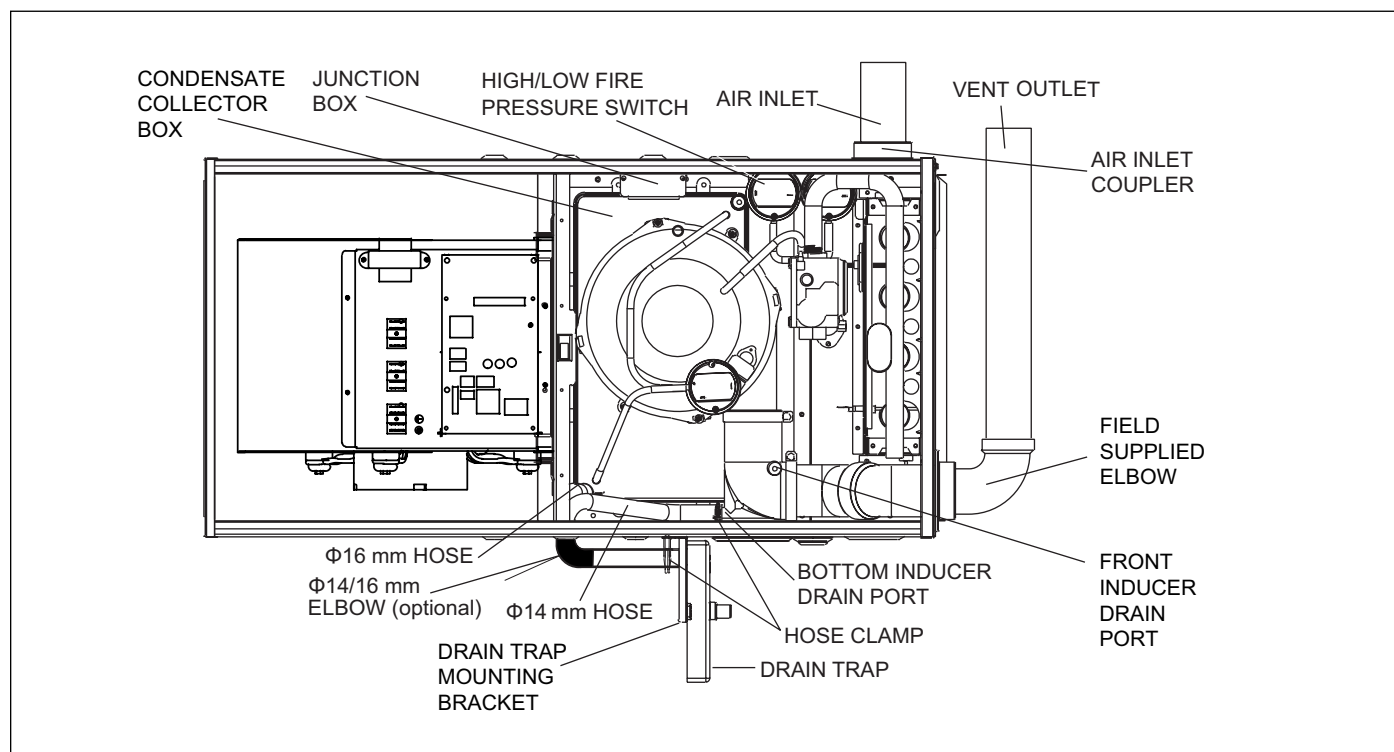

Figure 16 Horizontal Right-Hand Side Installation
**For installations with right air discharge and venting outlet through furnace top panel (see Figure 16).**